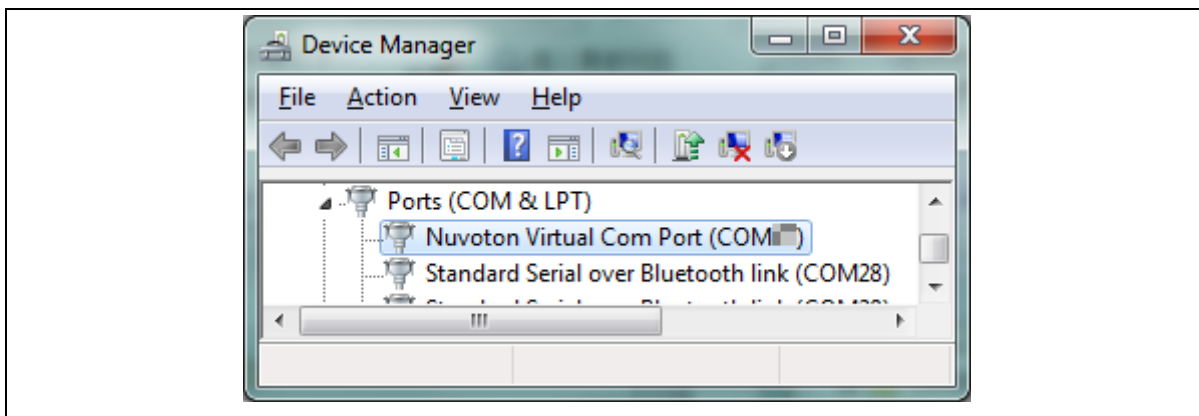

Figure 3.4-3 Device Manger
3. Find the “Nuvoton Virtual COM Port” on the Device Manger as Figure 3.4-3.